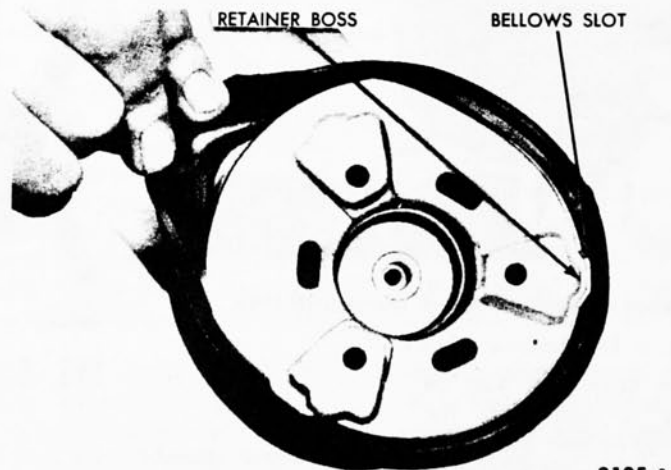

FIG. 10—Bellows to Guide Sleeve and Retainer Installation
4. Assemble the bellows (either end) over the retainer and guide sleeve assembly. Be sure that the three bosses in the retainer are aligned with the three slots in the bellows (Fig. 10).